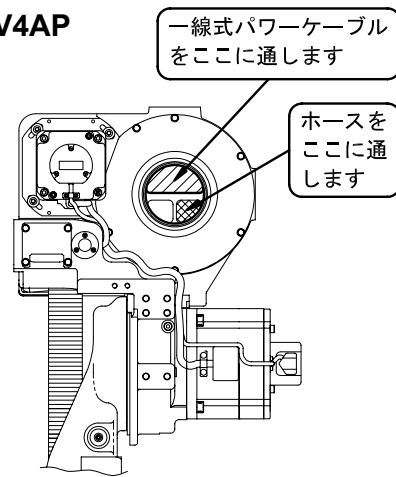

Fig. 3.19 Location to lead hose
3. Connect the hose to the torch arranging along the coaxial power cable. (Lead the hose in the location as shown in Fig. 3.19.)